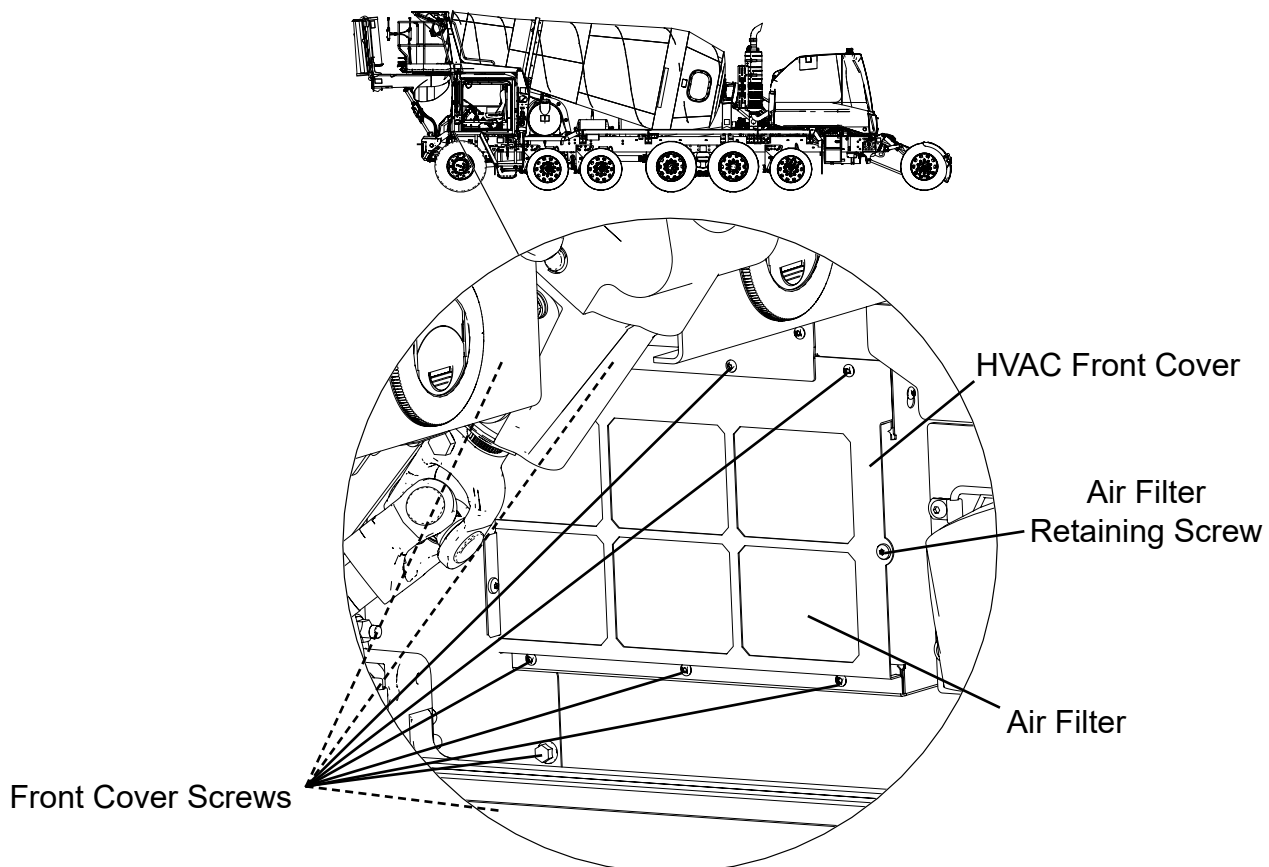

Figure 1
3. Remove HVAC system air filter retaining screw, see Figure 1.
5. Loosen and remove screws securing the HVAC system front cover to HVAC housing, see Figure 1.
12. Reinstall front cover on HVAC housing, see Figure 1.
15. Reinstall HVAC system air filter retaining screw, see Figure 1.